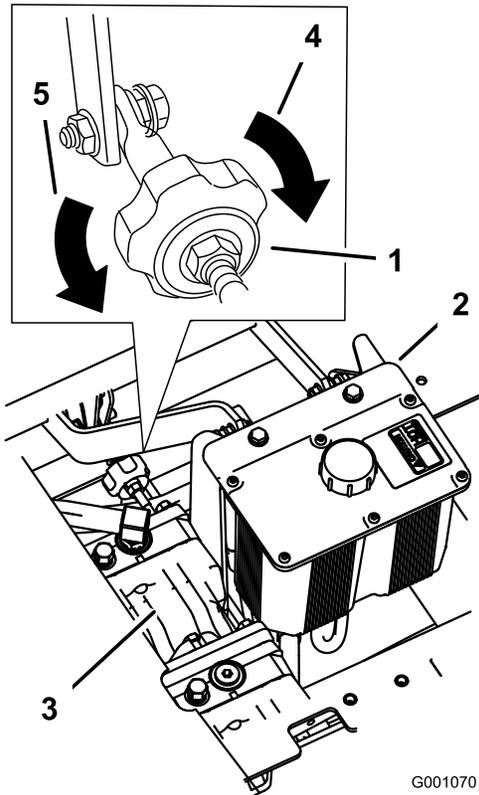

Figure 99
2. Adjust the pump rod length by rotating the knob, in the appropriate direction, until the wheel is still or slightly creeping in reverse (Figure 99).